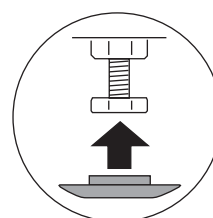

Figure 8.
2. Fit the sliding feet to the machine (see Figure 8).